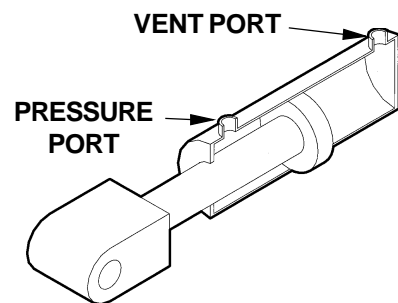

FIG. 4
5. Check the Hydraulic Cylinder. With the Platform on the ground, remove the Breather Plug or Vent Line from the Vent Port of the Cylinder (**FIG. 4**). Raise the Platform even with the bed. Allow pump motor to run two seconds more while you watch for hydraulic fluid at the Vent Port. A few drops of hydraulic fluid escaping the Vent Port is normal; however, if it streams from the Vent Port, Piston Seals are worn. Replace Seals.